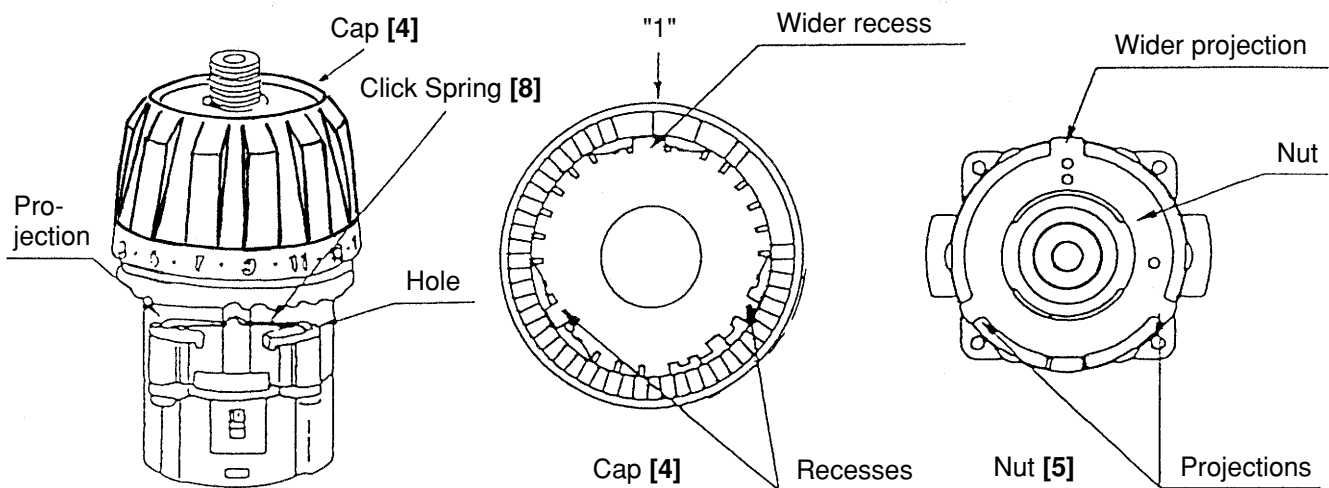

Fig. 11
- (c) Install the Click Spring [8] and the Cap [4] on the assembly reassembled in step (b). (See Fig. 11.)